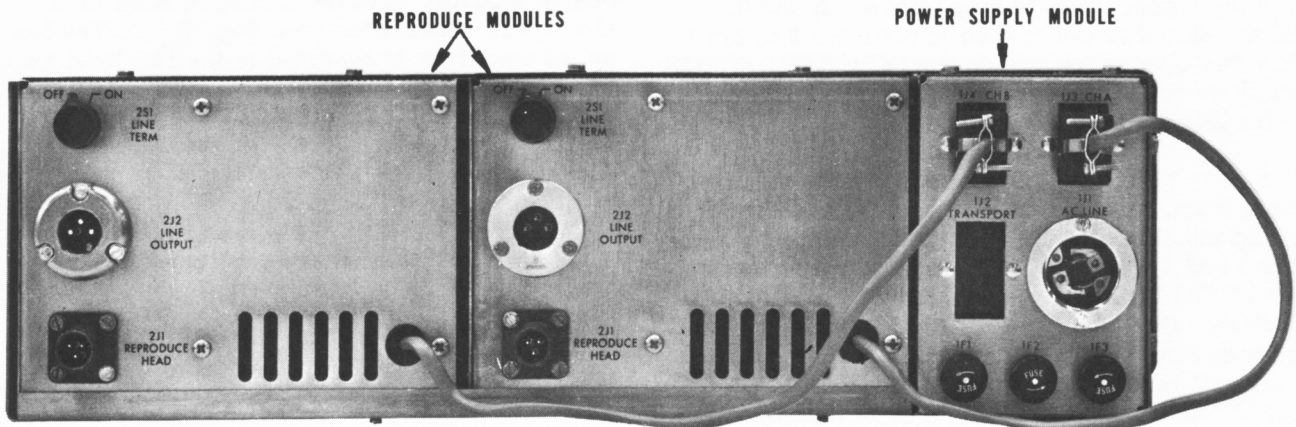

Fig. 2-4 Back Panel, Reproduce-only Electronic Assembly (Two Channel)
d. On reproduce-only equipment, connect the captive cable on each audio module to J3 or J4 on the power supply module (see Fig. 2-4).